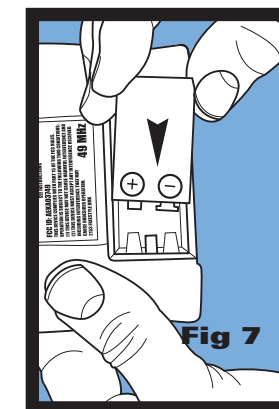

Fig 7
2. Insert a fresh, new 9-VOLT ALKALINE BATTERY with the polarity (+/-) as shown on the bottom of battery compartment. (Fig. 7)